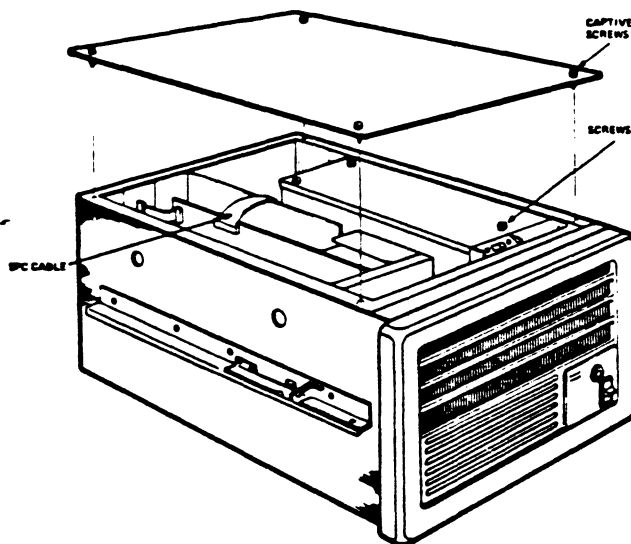

FIGURE 2-25 BOX SPC CABLE ROUTING
4. Cables that plug into connectors mounted at the module top (installed in backplane) are routed to the upper right bulkhead. See Figure 2-25.